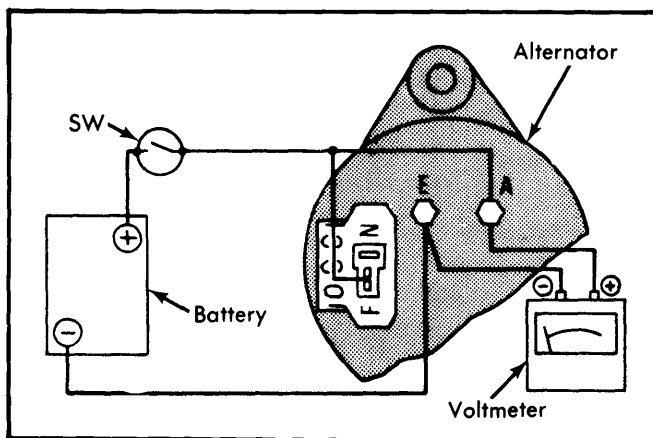

Fig. 3 Alternator Testing Connections for Subaru
**Subaru Models** — 1) Connect a voltmeter and leads to battery as shown in Fig. 3. Operate the alternator and turn off the switch "SW" when alternator speed reaches approximately 800 RPM. Increase speed in small increments while watching voltmeter deflection and read alternator speed when at 14 volts. Speed should be approximately 1000 RPM.